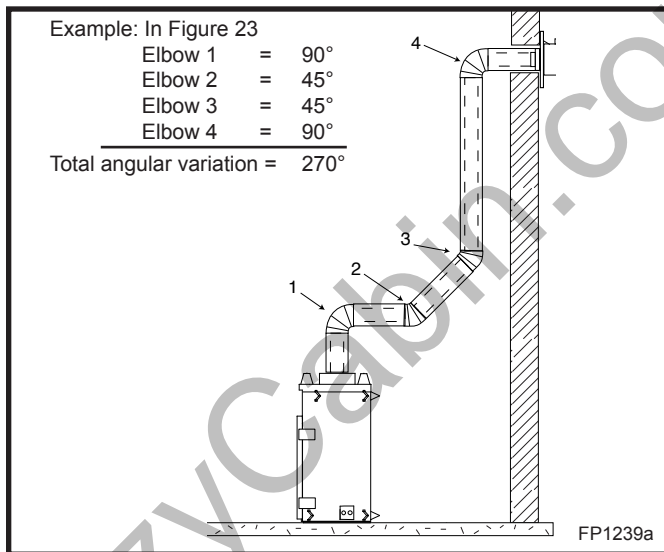

Fig. 19 Maximum number of elbow degrees.
- The maximum number of elbow degrees in a system is 270°. (Fig. 19)